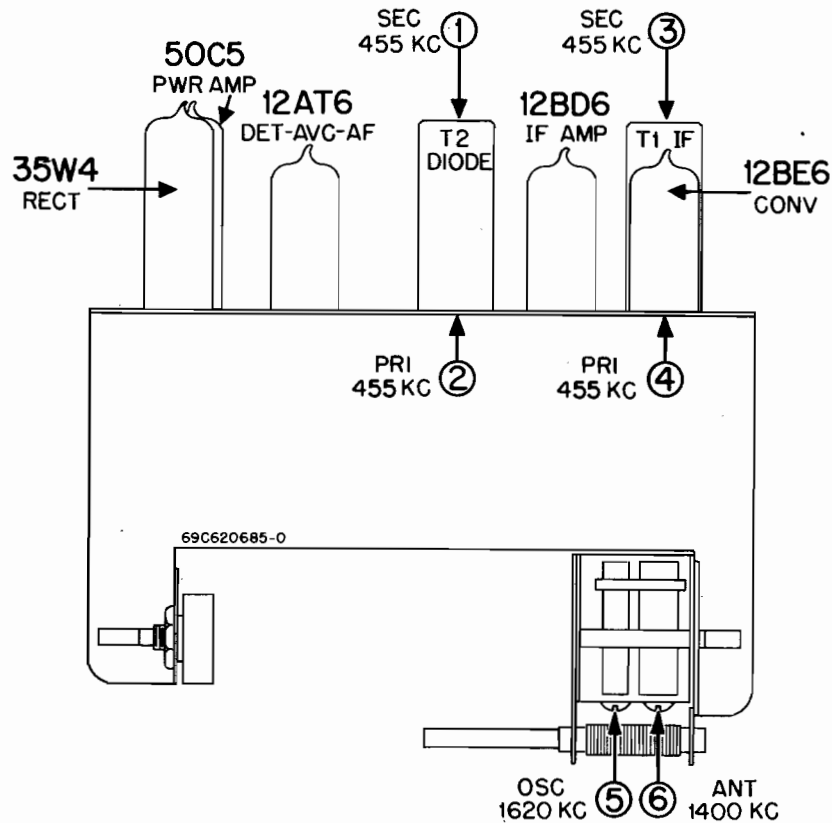

FIGURE 3. TUBE AND ALIGNMENT LOCATIONS
7. See Figure 3 for adjustment locations and the following chart for procedure.